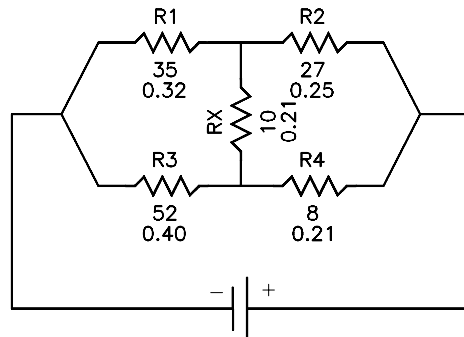

Figure 15-41 Electric circuit diagram with resistors for Exercise 2
3. Repeat the **INSERT** command to insert other blocks, and define their attribute values as given in the table. Save the drawing as *attexr2.dwg* (Figure 15-41).